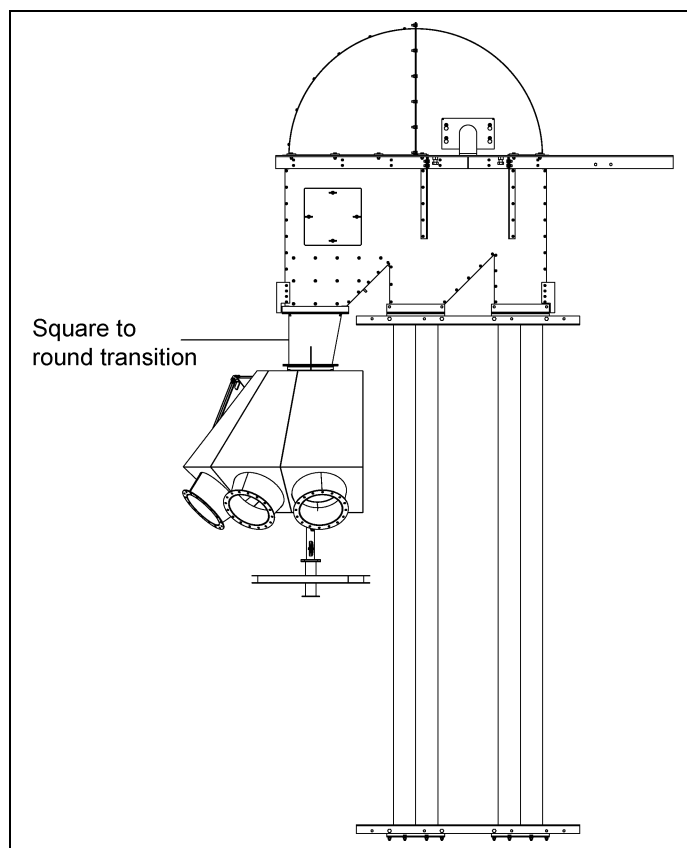
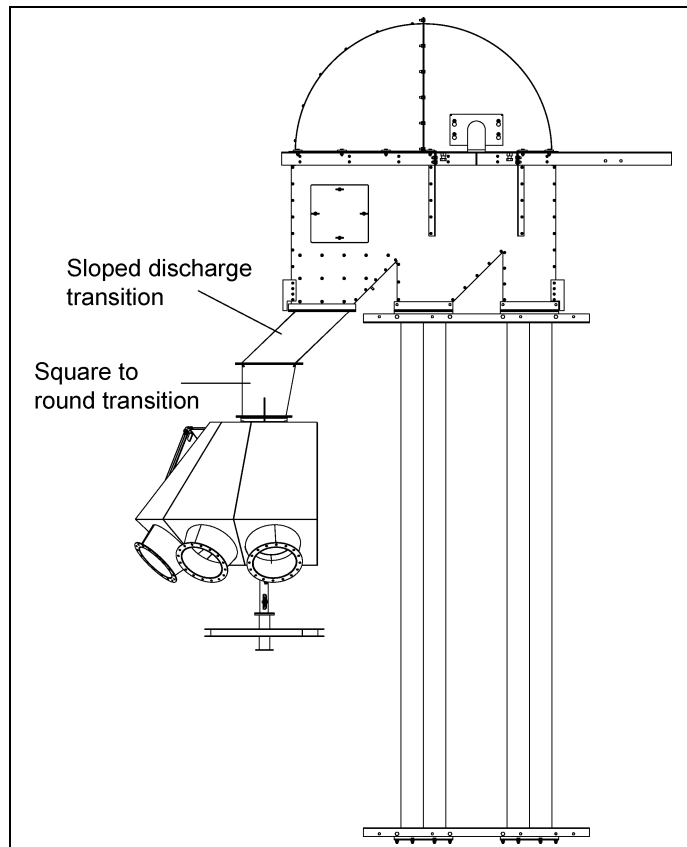

Figure 3A
Figure 3B
* The offset transition allows clearance between the bucket elevator and the distributor. The transition also keeps the distributor outlet spouting from interfering with the ladder safety cage. Transitions must be installed for proper distributor operation. *(See Figure 3A and Figure 3B on Page 10.)*